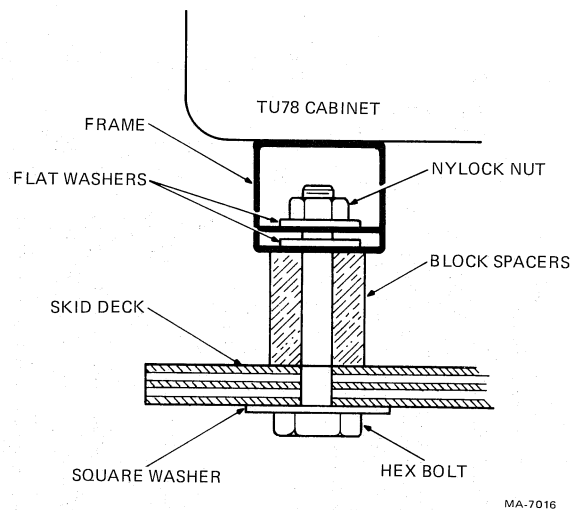

Figure 3-3 TU78 Mounting for Shipment
7. Unbolt the cabinet from the shipping skid. Remove four hex bolts that hold the cabinet frame to the skid deck (Figure 3-3). Discard the bolts, washers, and nuts.
8. Remove and discard the three wooden block spacers located between the cabinet frame and the skid deck (Figure 3-3).